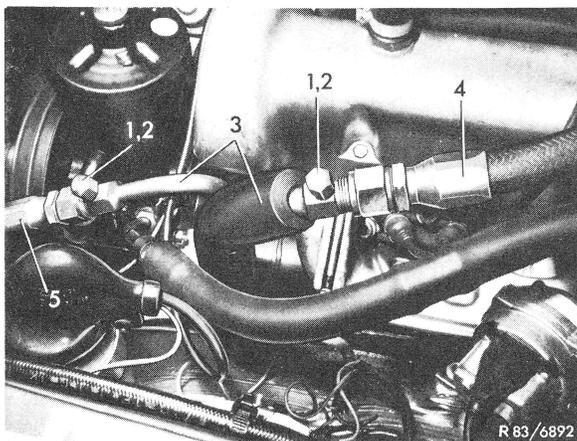

Fig. 2
- 1 Remove plugs (1) of line connections of both service valves (Fig. 2).